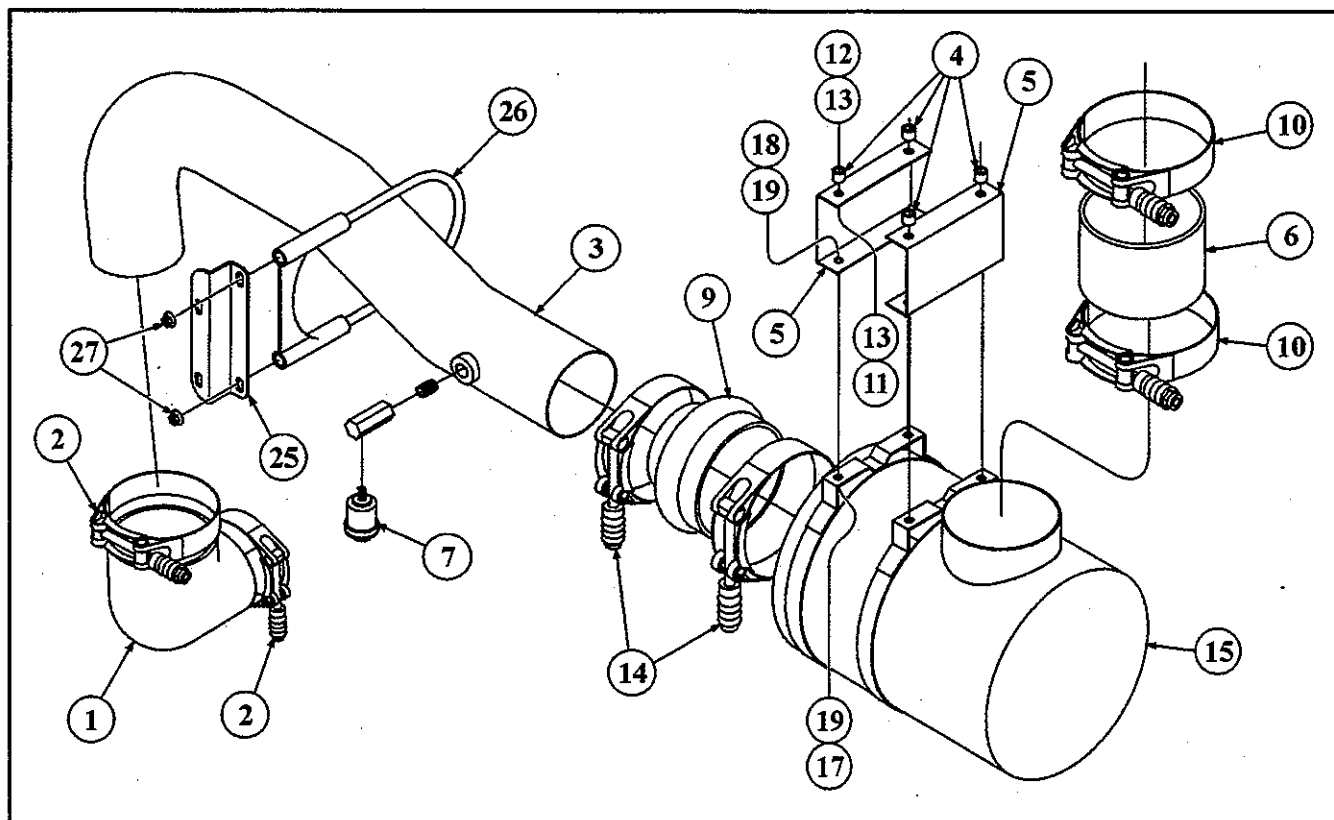

Figure 2—Air Intake Assembly
1. Install loaded spring clamp (10) to air cleaner assembly. (See Figure 2—Air Intake Assembly.)